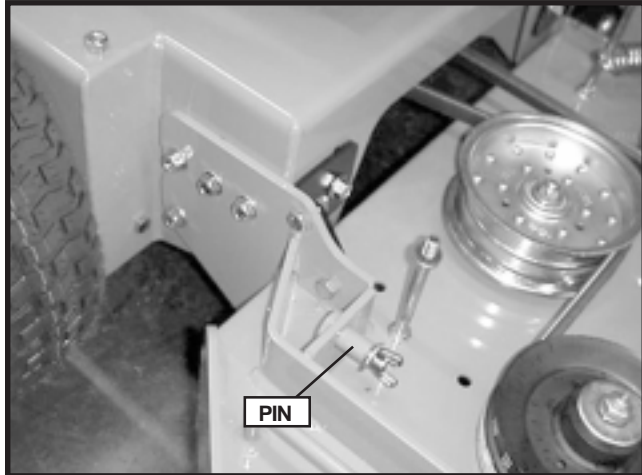

FIGURE 4
**NOTE:** To quickly achieve small changes in cutting heights, move the spacers from under the cutter housing to the pin on top of the cutting deck. See Figure 4. (Each spacer moved will give an additional 1/4" of cutting height ).